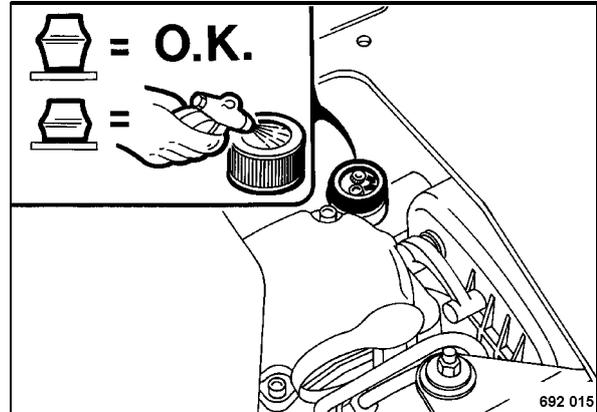

Fig. 53
- Pull the rubber sleeve (Fig. 53) up, start the engine and run it a max. speed.